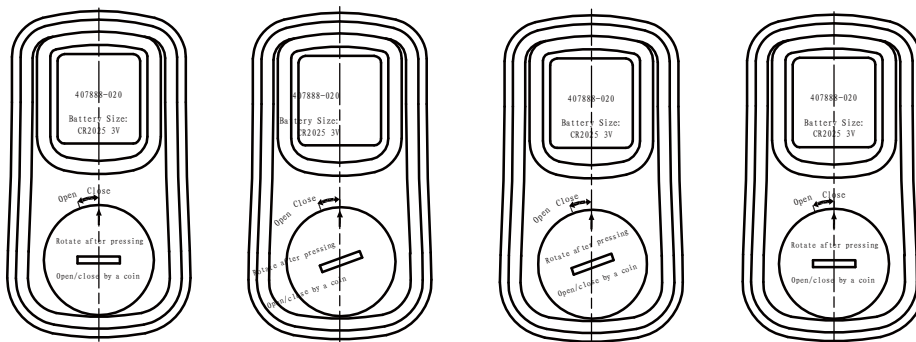

Fig.8
- Using impact electric drill with $\Phi 6\text{mm}$ drill, make two horizontal punching, between which, the distance should be 28mm (Refers to Fig.8). Use expansion pipes and screws (in accessories) to fix bracket on the wall.